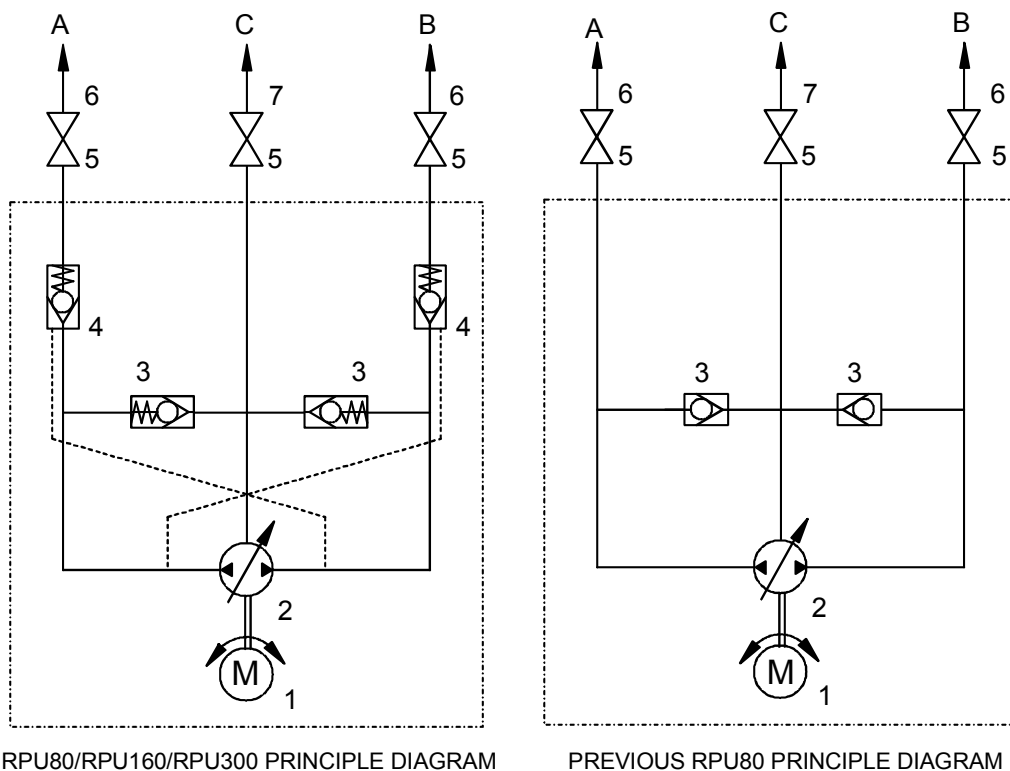

Figure 3-1
3.2 Principle of operation (ref. figure 3-1 and figure 9-1)
1. *A previous model of RPU80 Reversible Pump was simplified according to the principle diagram. (Ref. figure 3-1 and figure 9-2). The principle of operation was similar to that of RPU160. The (suction) valves, however, operated as combined suction and non-return (check) valves controlled by internal pressure and direction of oil flow. The resulting effect was a smoother non-return (check valve) function as compared to the one with separate non-return valves.*